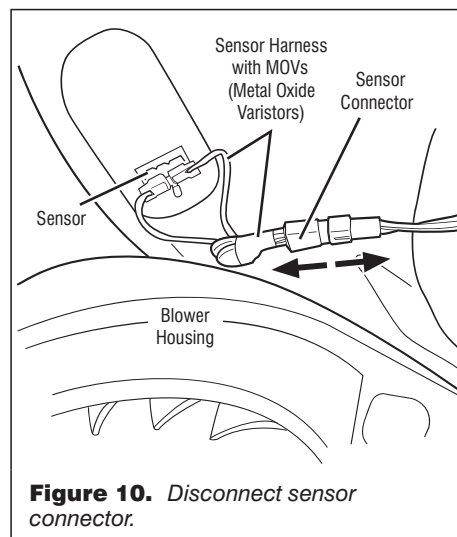

Figure 10. Disconnect sensor connector.
- Disconnect the sensor connector. See figure 10.